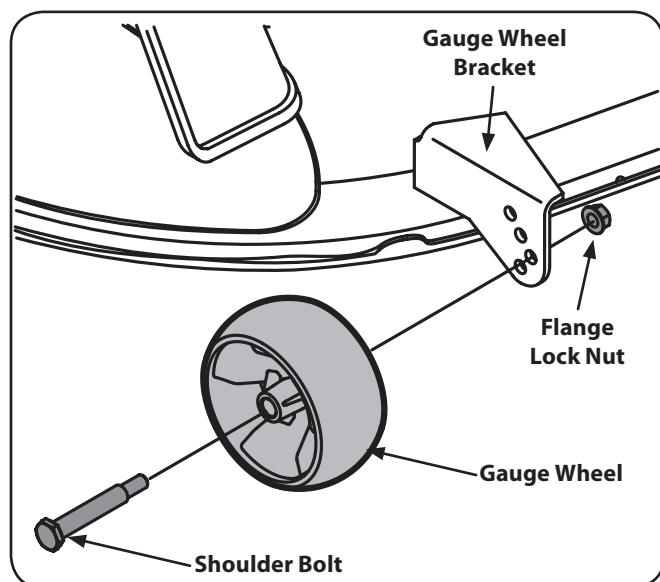

Figure 6-6
- b. Remove the front and rear deck wheels by removing the lock nuts and shoulder bolts which secure them to the deck. See Figure 6-6.